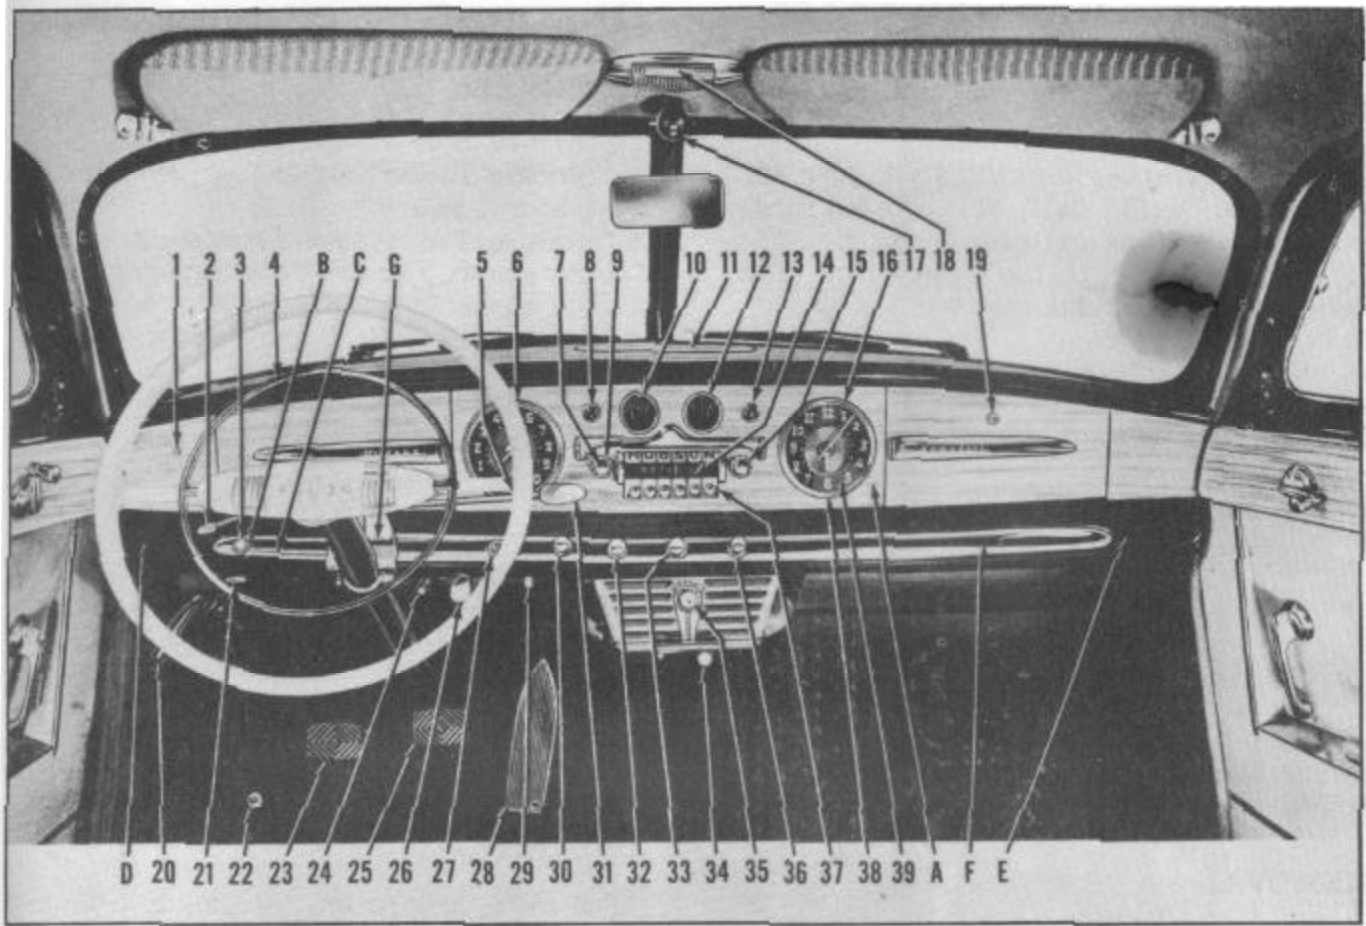

FIGURE 32
1. Turn ignition switch (27), Figure 32, to "off" position.
2. Remove Phillips head screw from the under side of instrument panel and remove switch (3).
1. Remove starter switch (3), Figure 32.
5. Remove panel and ornament (D).
1. Remove ignition switch (27), Figure 32.
2. Remove instrument lamp rheostat (29).
3. If car is equipped with Drive-master, remove Drivemaster control switch (30).
4. Remove light switch (32).
5. Remove cigar lighter (33).
6. Remove windshield wiper control (36).
9. Remove right hand half of chrome finish strip (G) at steering column.
10. Remove switch panel (E) and panel ornament (F).
1. Remove instrument finish panel (A), Figure 32.
2. Remove four screws attaching clock to instrument panel and remove clock (39) from panel.
4. Remove gauge (10) from back of cluster.